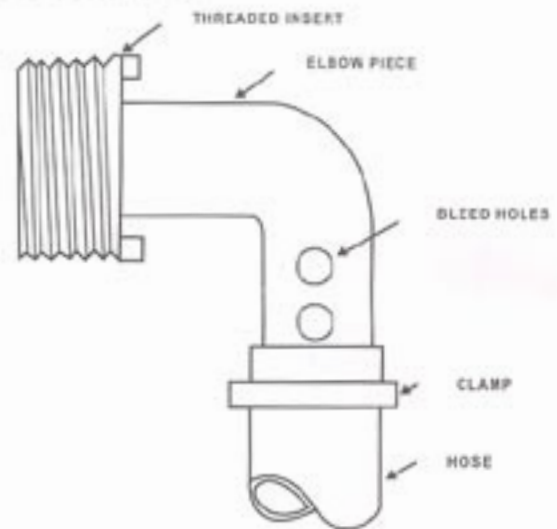

FIGURE 5
Height adjustment is achieved by covering more or less of the bleed holes (Fig.5) on your elbow piece (6) with the hose (3) The more holes covered, the higher the fountain and vice versa.
Height adjustment is achieved by covering more or less of the bleed holes (Fig.5) on your Elbow Piece (6) with the hose (3) The more holes covered, the higher the fountain and vice versa. If your fountain is still not as high as desired, use the threaded plug (11) to plug one of the other inlets.
Height adjustment is achieved by covering more or less of the bleed holes (Fig. 5) on your Elbow Piece (6) with the hose (3). The more holes covered, the higher the fountain and vice versa. If your fountain is still not as high as desired, use the threaded plug (11) to plug one of the other inlets.